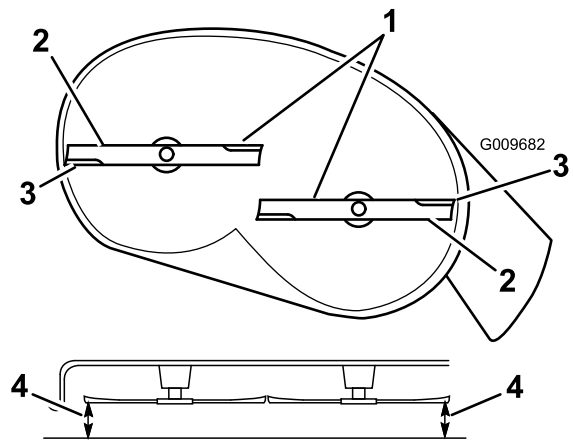

Figure 52
4. Carefully rotate the blades so that they are all side to side (Figure 52).
5. Measure between the outside cutting edges and the flat surface (Figure 52). If both measurements are not within 5 mm (3/16 inch), an adjustment is required; continue with this procedure.